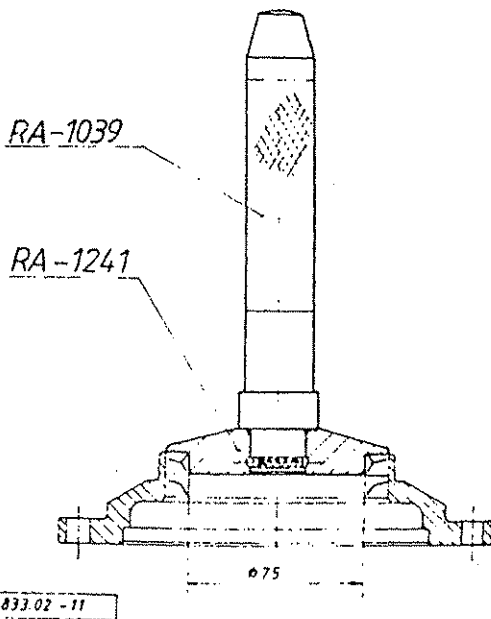

Fig. 3.: DRIVING OUT THE SEALING RINGS
By means of the tools shown remove the used sealing rings (4) from the cover (see Fig. 3.).